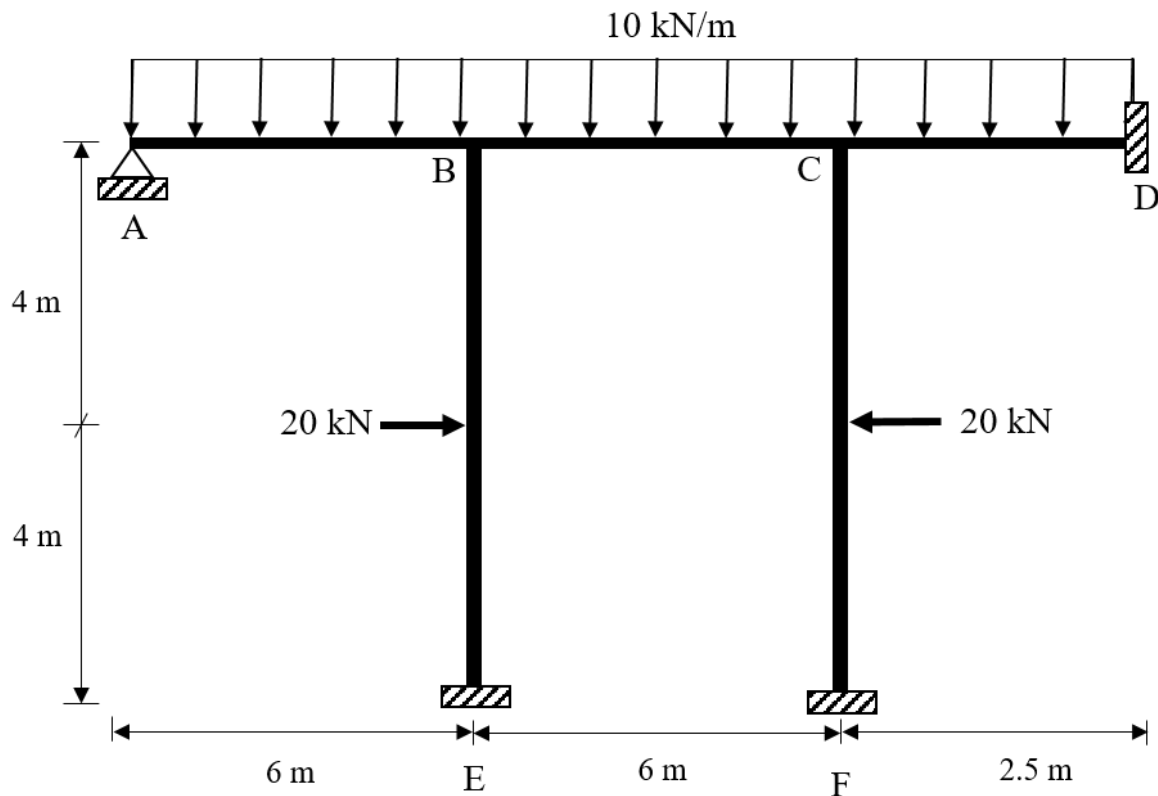

Figure 3
3. **Figure 3** shows a frame carrying a uniformly distributed load of 10 kN/m for member ABCD. A 20 kN point load acts at the middle span of BE and CF. Support A is pinned whereas supports D, E and F are fixed. EI is constant for the frame.